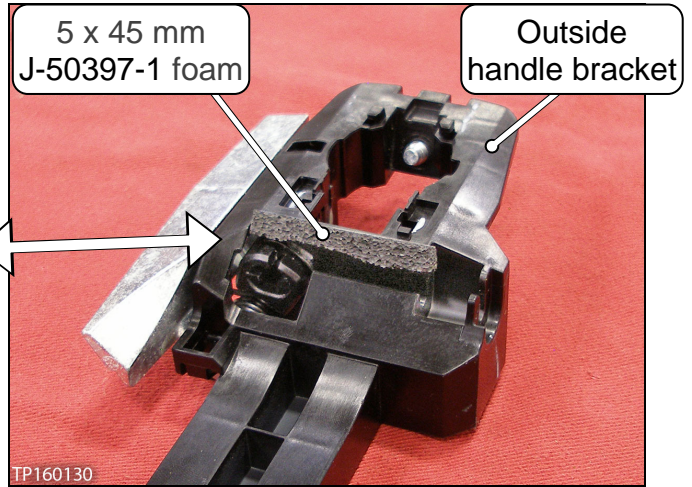

Figure 2
2. For each outside handle bracket: Cut two (2) pieces of foam:
- Foam dimensions (both pieces): 5 x 45 mm (see Figures 2 and 3).